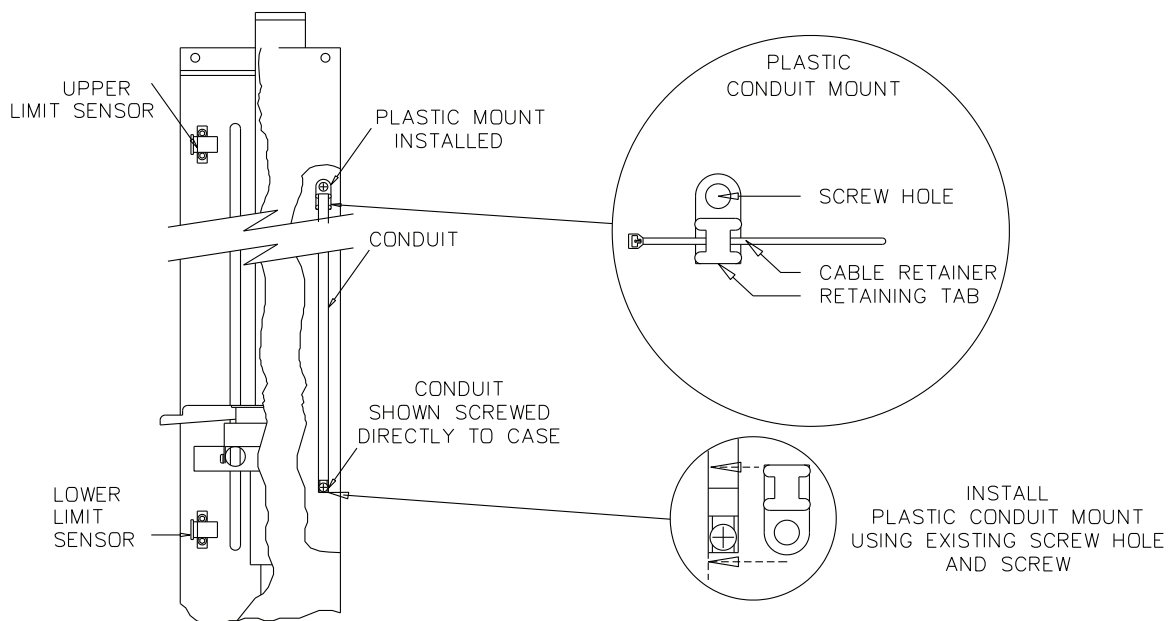

Figure 9-17 Installing the plastic mounts
- b. Then use the same screws and holes to install the mounts. Be sure the tab portion of the mount is facing away from the sensors, as shown in Figure 9-17, (the screw aperture is closest to the sensors).